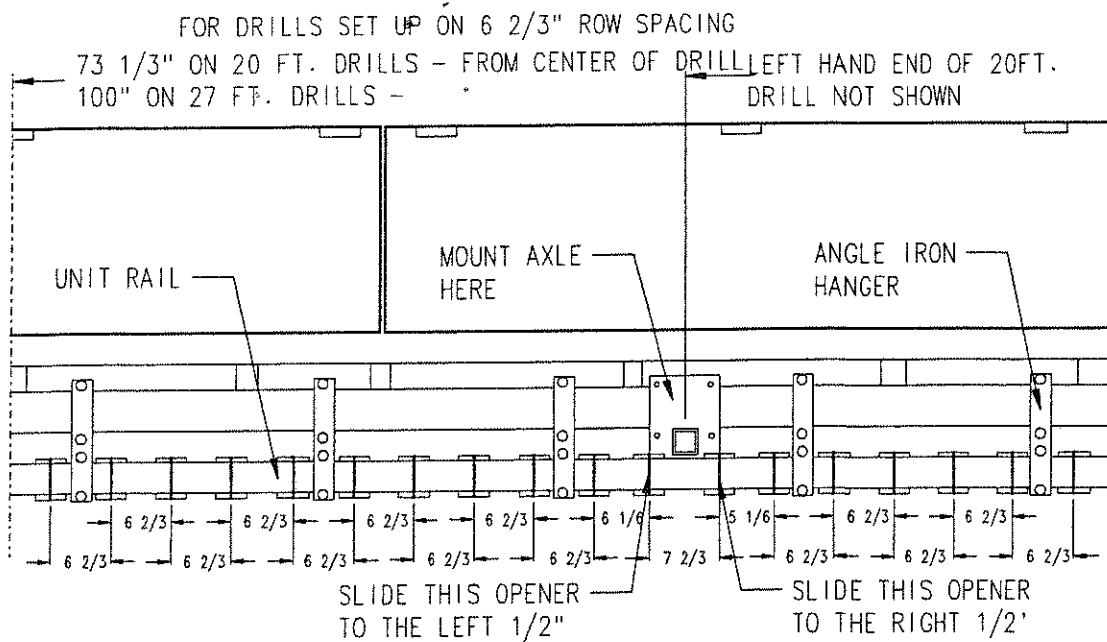
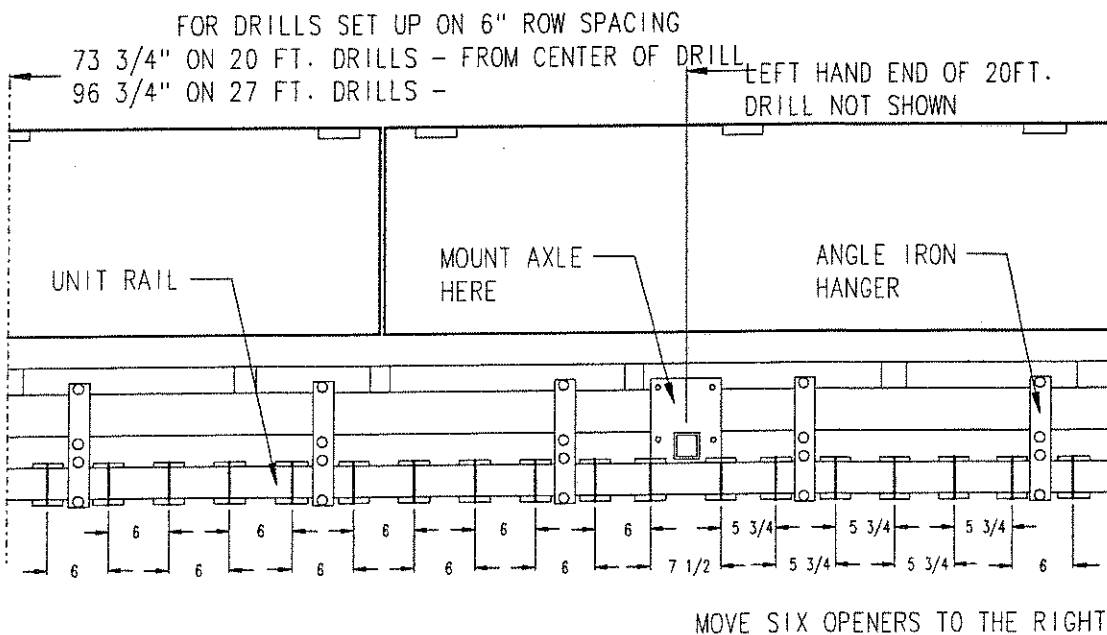

FIGURE 23
FIGURE 24
72" to 73" to the right on a 20' drill (Figure 23 & 24)
96" to 100" to the right on a 27' drill (Figure 23 & 24)
Put a mark on the bottom 3 1/2" square bar of the main frame. The axle will have to be mounted in this area beneath the bottom 3 1/2" square bar of the main frame and above the 2" X 3" unit rail (Figure 23 or 24). The axle will have to be mounted between 2 opener units; therefore, a 7 1/2" row spacing will be required in this one area. If the drill is set up on a 6" or 6 2/3" row spacing adjustment of the opener units will be necessary. For drills set up on 6" row spacing, adjust the adjacent 6 openers on the right hand side of this area 5 3/4" spacing as follows: Fig. 24
For drills set up on 6 2/3" row spacing, adjust 1 opener on each side of the area by loosening the U-bolt that holds the opener to the 2" X 3" unit rail and sliding the one on the right hand side approximately 1/2" to the right and sliding the one on the left hand side approximately 1/2" to the left. (Figure 23). After adjusting the 2 openers on the 2" X 3" unit rail, move to the rear of the drill and adjust the down pressure spring brackets mounted on the 2" X 3" rear bar exactly the same way. Retighten all U-bolts.
1. Before installing the axle, loosen the U-bolts that mount the angle iron hangers to the main frame and the unit rail (Figure 23 or 24). This will allow the axle to be installed between the bars more freely.